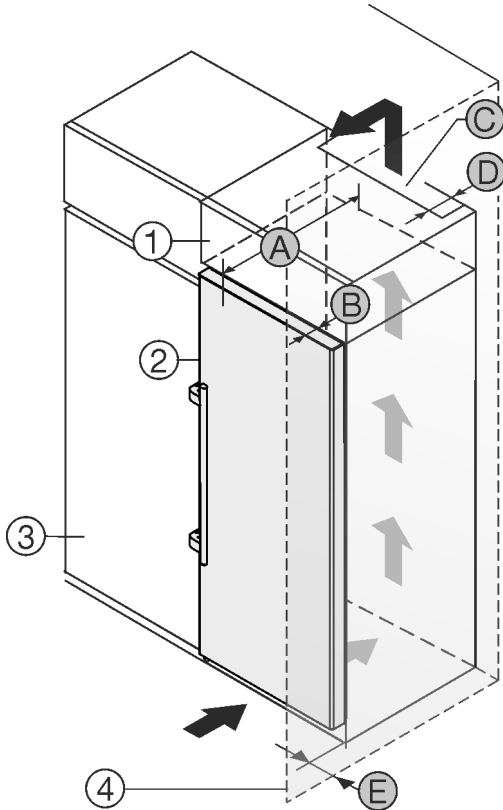

Fig. 2
- (1) Top cabinet *
- (2) Appliance *
- (3) Kitchen cabinet *
- (4) Wall *
- (A) Appliance depth *
- (B) Door depth *
- (C) Ventilation cross-section *
- (D) Distance to the rear of the appliance *
- (E) Distance to the side of the appliance *
You can place the appliance directly beside the kitchen cabinet Fig. 2 (3).*
There must be a ventilation shaft at the depth Fig. 2 (D) of the back of the top cupboard over the entire width of the top cupboard.*
The cross section of the ventilation gap Fig. 2 (C) must be maintained below the ceiling.*
If the appliance is set up with the hinges next to a wall Fig. 2 (4), the distance between the appliance and the wall must be at least 57 mm . This is how far the handle protrudes when the door is open.*
In order to be able to fully open the door, the appliance must protrude by the depth of the door Fig. 2 (B) from the front of the kitchen cabinet. Regardless of the depth of the kitchen cabinets Fig. 2 (3) and use of wall spaces, the appliance can protrude further.*